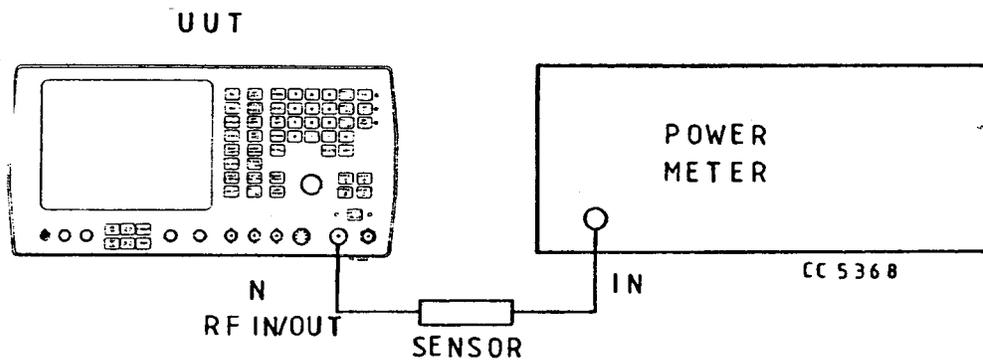

Fig. 43 Test equipment connections for adjusting R32 on AB6
- 1) Connect the equipment shown in Fig. 43 via a high-sensitivity head (-20 to -65 dBm).